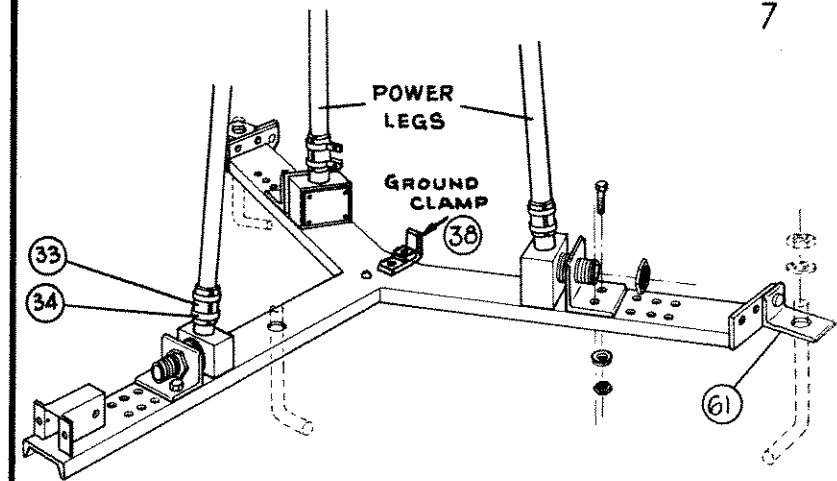

FIG. 7
5.) Attach all three legs to the slip section clamp (25) using aluminum mounting head screws (26) (one each) and (27) (two each) as in Fig. 5. Install (27) into legs which will carry power. Use (26) on remaining leg. See Fig. 7 to define which legs should be used for power.